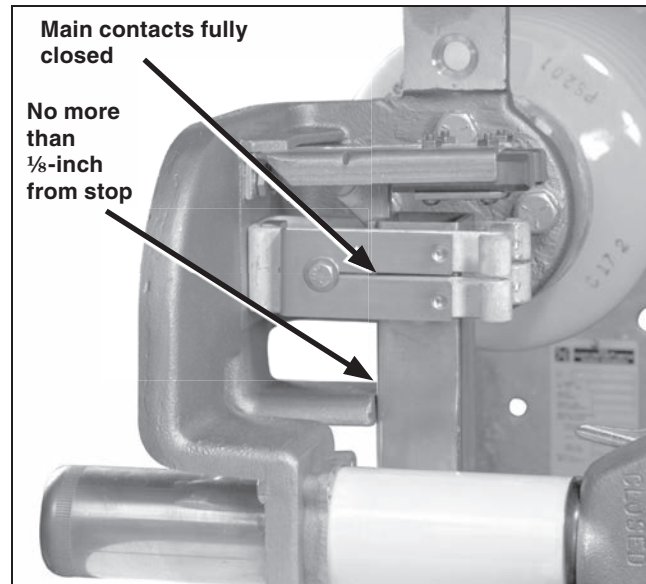

Figure 33. Check that the blade is fully closed and within $\frac{1}{8}$ -inch of the stop on the terminal base casting.
- (a) With the operating handle as far as it will go in the closing direction, both main contacts of each switch pole are fully closed with the blade within $\frac{1}{8}$ -inch of the stop on the terminal base casting. See Figure 33.